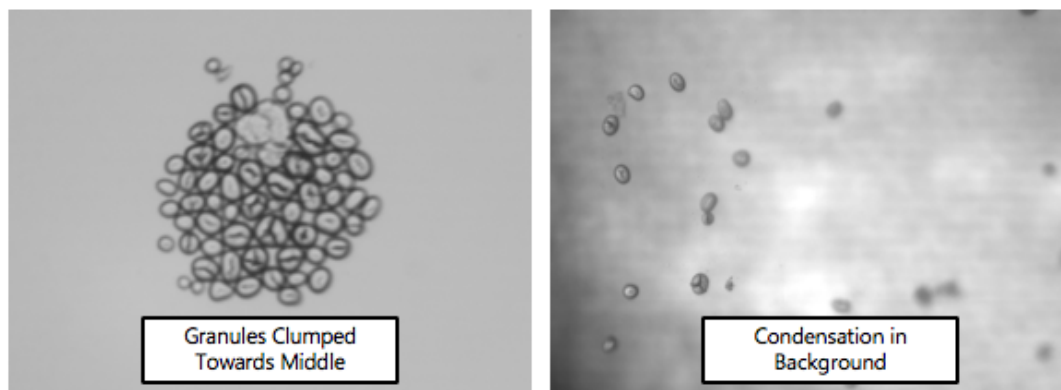

Figure 4: Examples of potential problems that may be encountered
2. Sometimes the food material (ie. starch granules) all clump towards the centre or the edge of the view, as shown in Figure 4. The cause of this problem is still unknown but some possible solutions include:
3. If the bottom of the chamber, specifically the metal lid and glass bottom is not completely dry, condensation will form on the outside of the bottom glass during heating. This will significantly impact the focus of the image (Figure 4).